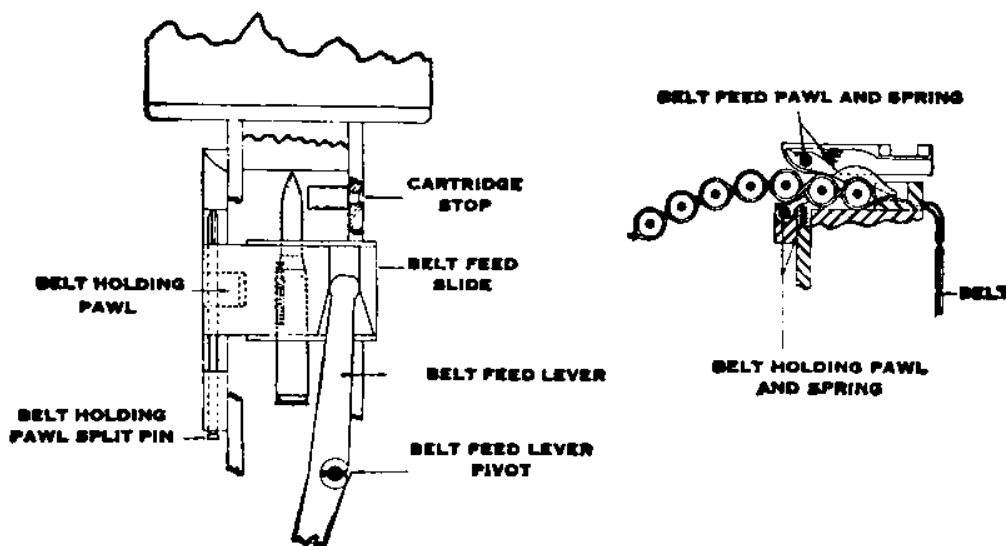

FIGURE 12.—Belt feed mechanism.
■ 38. **FIRST ACT OF FEEDING** (fig. 12).—As the bolt moves backward, the stud on the pivoted belt feed lever moves to the right in the cam groove, thus forcing the belt feed slide to the left. The belt feed pawl engages on the left of the first cartridge which is held in position by the belt holding pawl. In the event the extractor fails to withdraw the lead-
■ 44. **SECOND ACT OF FEEDING** (fig. 12).—As the bolt goes forward the stud on the pivoted belt feed lever moves to the left in the cam groove, forcing the slide to the right. The belt feed pawl carries the first cartridge to the right against the cartridge stops, ready to be gripped by the extractor. The next cartridge is carried over the belt holding pawl which rises behind it and holds it in position to be engaged by the belt feed pawl on its next movement to the left.